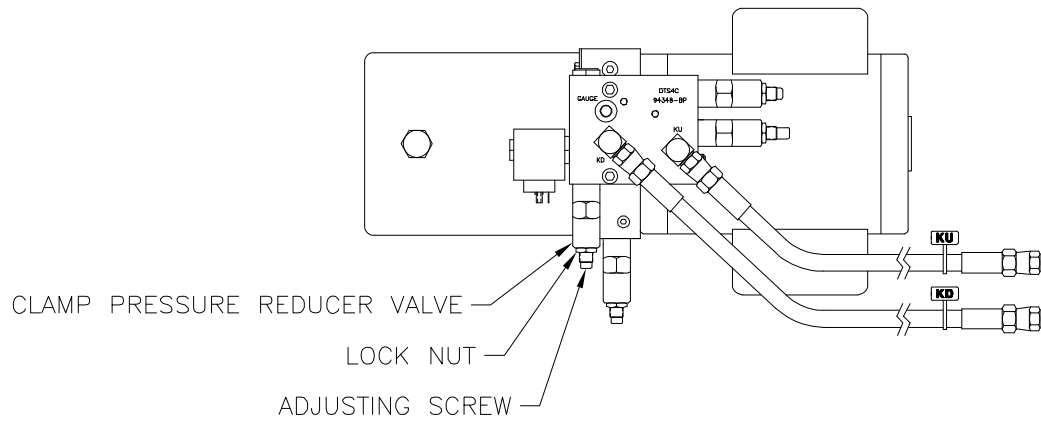

Figure 18 – Top View of Hydraulic Unit
**MANUALLY-ADJUSTED CLAMP PRESSURE CONTROL:** To adjust the clamp pressure, first remove the lower front cover, then start a cut cycle and read the pressure on the gauge once the clamp has reached the table and the knife starts to come down. It should read between 400 and 800 psi. Now locate the clamp pressure reducer valve (Figure 18, next page), loosen the hex jam nut, and turn the adjustment screw with a hex allen wrench to make the adjustment – clockwise to increase pressure, or counter-clockwise to decrease pressure. Check the pressure setting after each adjustment by making a cut and reading the gauge. Always keep the clamp pressure set between 400 and 800 psi.